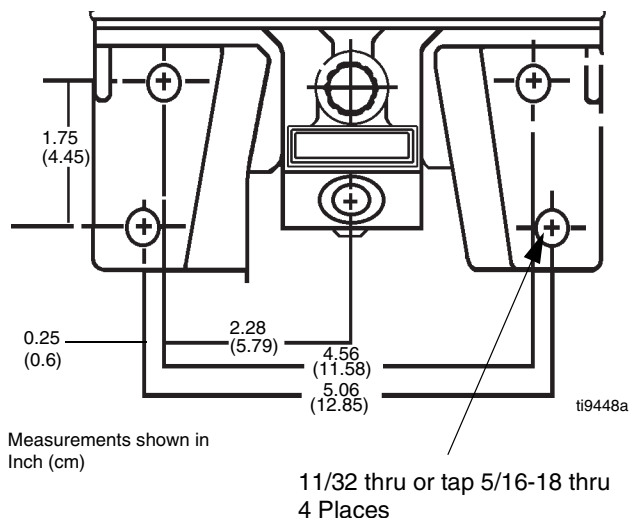

FIG. 1
- Mounting holes and dimensions are the same on both styles of pump (See FIG. 1).